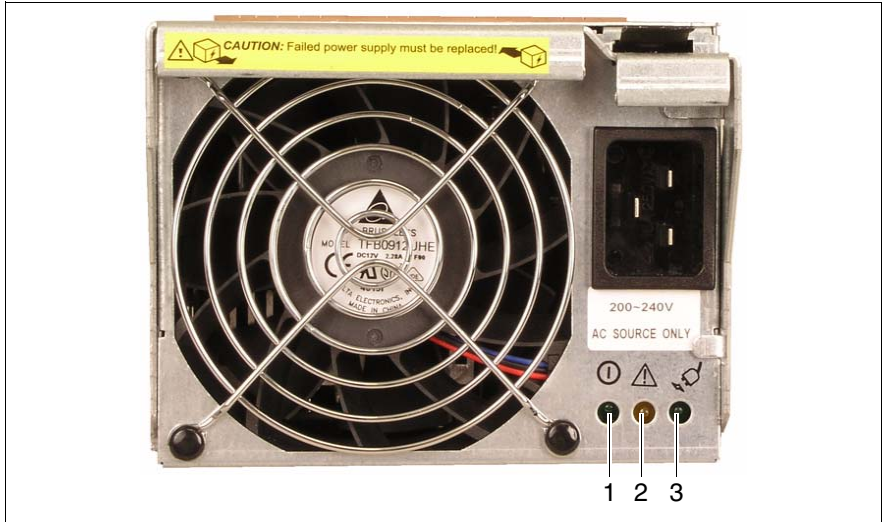

Figure 76: Power supply unit: LEDs
1If the large fan on the front fails, the power supply unit switches off. If one of the small fans on the rear fails, the power supply unit continues to run. See figure 76 for the location of the power supply unit fans.
- ▶ Check the FAN LED of the power supply units on the back of the system (see figure 76 on page 132) to determine which power supply unit is defective.